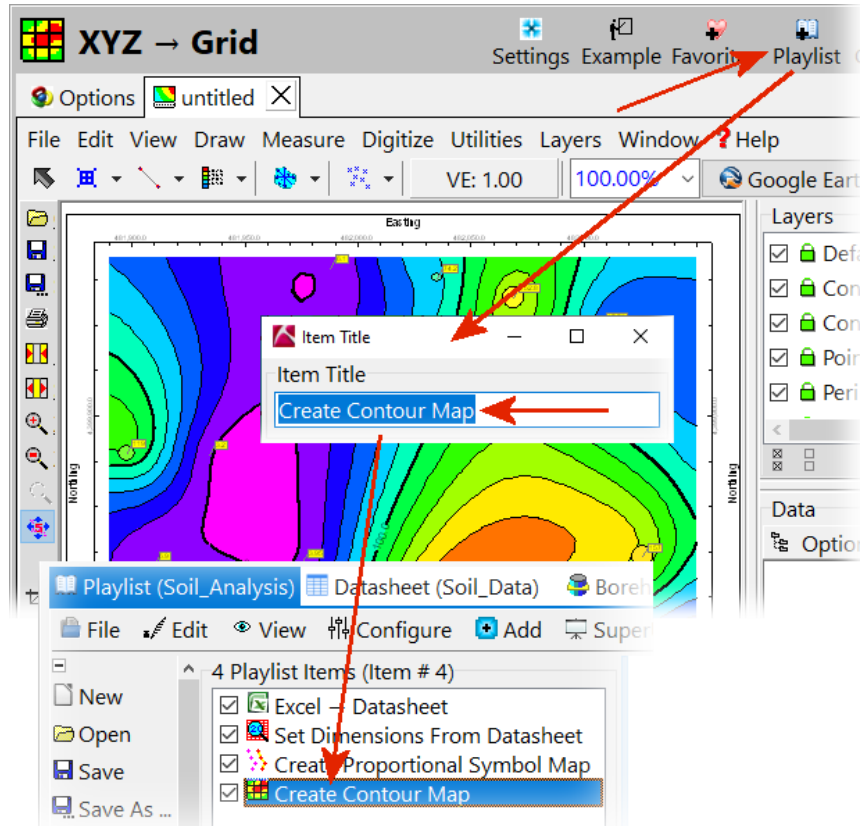

Figure 39
- Add the contour mapping to the Playlist by selecting the Playlist button and entering “Create Contour Map” (Figure 39).